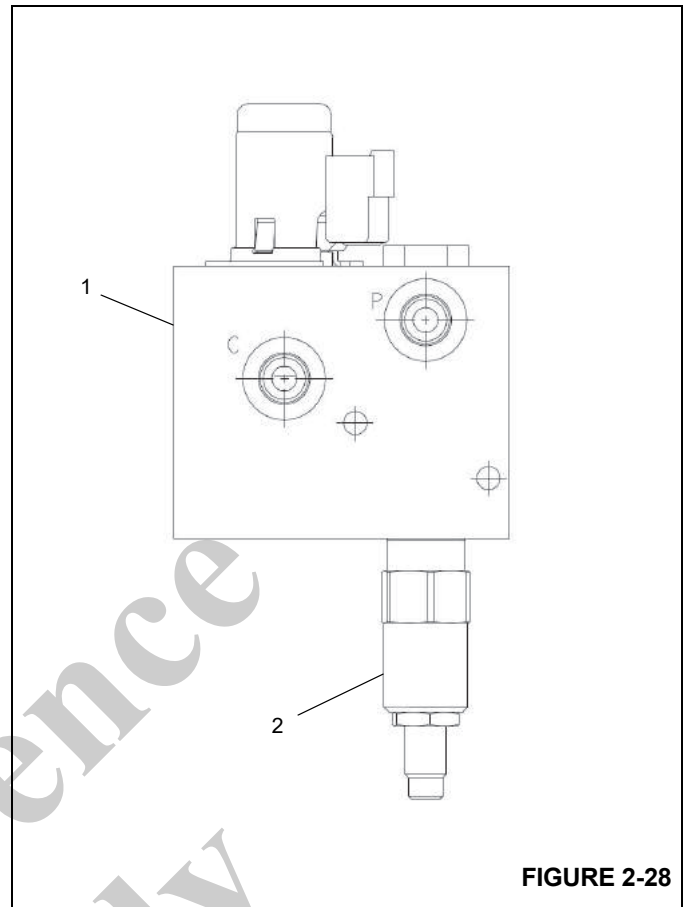

FIGURE 2-28
1. Install a pressure check diagnostic quick disconnect (Parker PD240) with gauge onto test nipple at the G port (1) of the accessory manifold (Figure 2-28).
3. Turn pressure reducing valve (4) "out" approximately two (2) turns and then "in" approximately two (2) turns to starting position. Adjust pressure reducing valve "in" to increase or "out" to decrease until a gauge reading of 100 ± 20 PSI (7 ± 1.5 bar) is achieved.